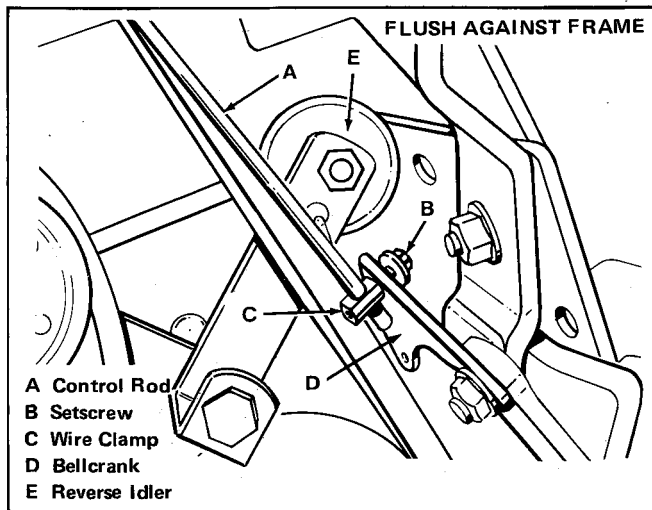

Figure 27. Reverse Control Rod Assembly
2. The setscrew with washer and the wire clamp (items B and C, Figure 27) for the reverse control rod are preassembled on the right bellcrank (item D) in top hole. This hole is stamped 5-R on later style bellcranks. Loosen the setscrew only enough to slip the end of the control rod (item A) through the wire clamp. The control rod must be on the **inside** of the bellcrank.